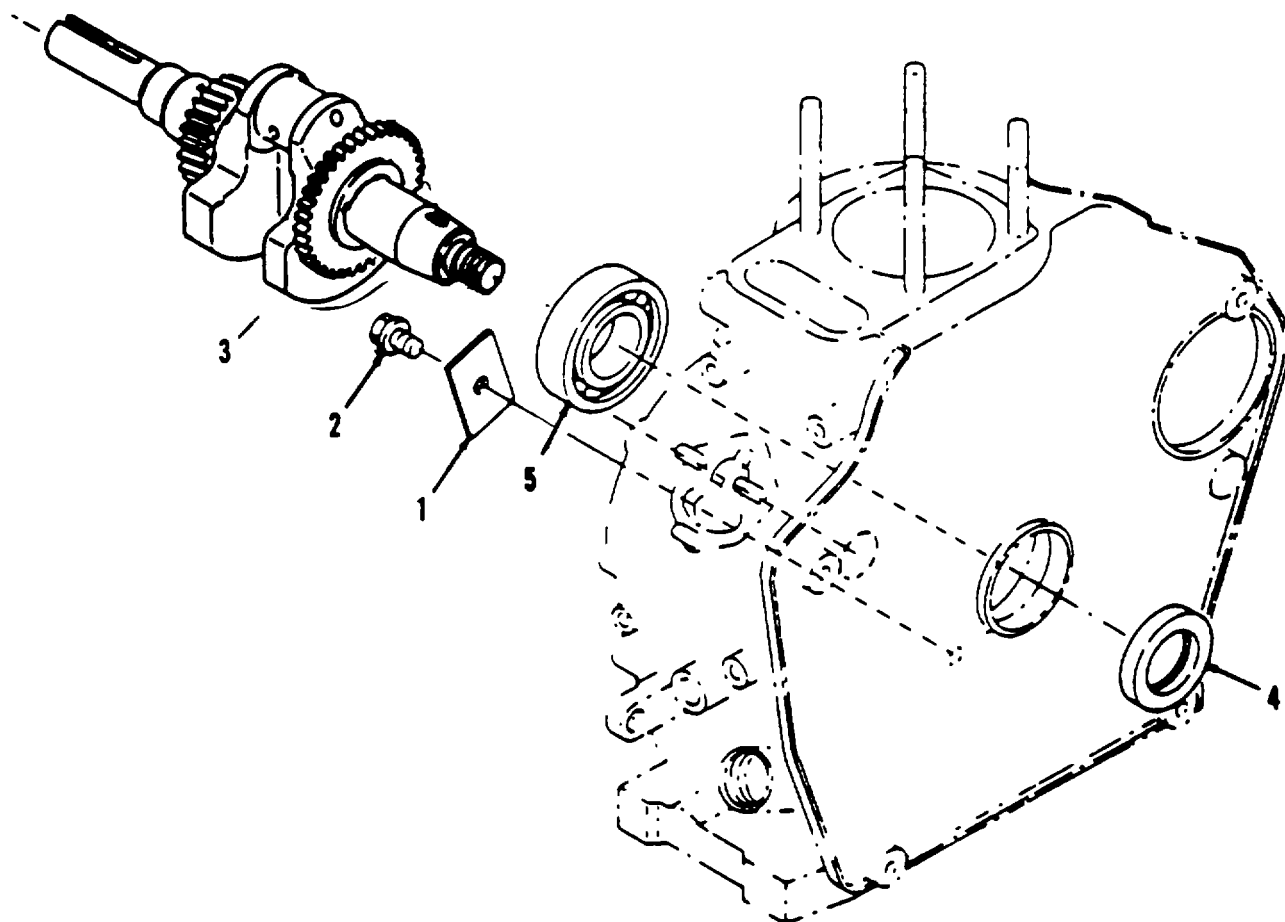

Figure 6-12. Crankshaft Replacement.
a. Removal. (Refer to Figure 6-12).
- (1) Remove bearing holder (1) and bearing holder nut (2).
- (2) Pull out the crankshaft (3). It may be necessary to carefully tap crankshaft with a rubber mallet.
- (3) Remove oil seal (4) and discard.